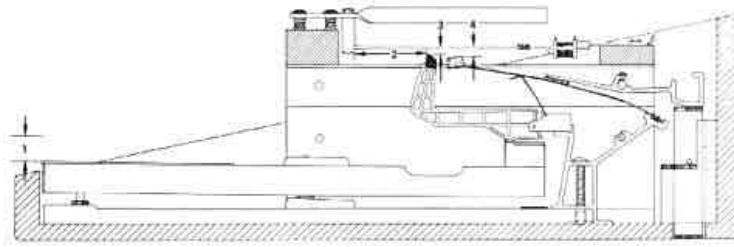

Figure 4-1. RHODES Modular Action - Single Key Depressed
1. **Key Dip.** The distance of downward travel of the Key Front (Figure 4-1, 1) is called "Key Dip." This dimension should be $3/8" \pm 1/32"$, that is, from $11/32"$ to $13/32"$ ($9.525 \pm 0.794\text{mm}$ or 8.731mm to 10.319mm).
2. Escapement. The gap remaining between the Hammer Tip and the Tine (Figure 4-1, 3) with the Key depressed is called "Escapement". This Dimension varies from the extreme Bass (left) Tone Bar to the extreme Treble (right) Tone Bar and should be as follows (Figure 4-2).
3. **Damper Clearance.** Although the Bridle Strap is part of the Hammer Assembly, it functions as an integral part of the Damper System. It is designed to engage a "Hook" which is formed into the arm of the Damper Module at approximately its mid-point. As the Hammer swings upward, the Bridle Strap pulls the Damper Arm downward thus disengaging the Damper Felt from the Tine. As the Hammer Tip strikes the Tine, the Damper is at the point of maximum Clearance (Figure 4-1, 4) allowing the Tine to vibrate unimpeded. Damper Clearance should be 3/8" to 1/2" (9.525mm to 12.700mm).
and the leading edge of the Tone Generator (Figure 4-1, 2). This dimension should be taken at the extreme Bass (left) Tone Bar. At the extreme Treble (right) Tone Bar, this dimension is approximately 1/8" (3.175mm).